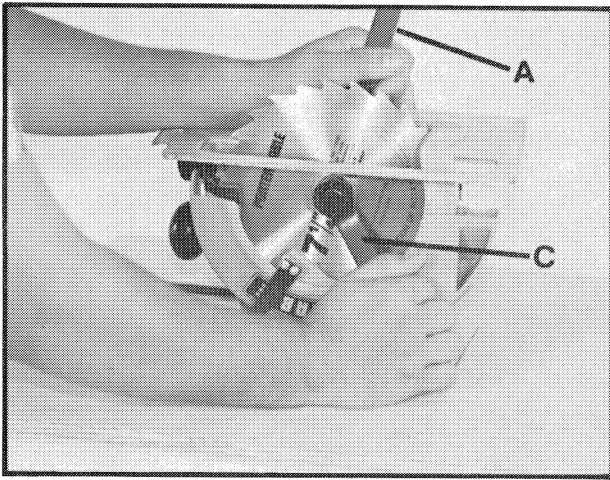

Fig. 4
3. Turn the saw over and make sure the handle rests on a rigid support. See Fig. 4.
4. Retract the blade guard. Insert the jackshaft wrench (A) Fig. 4, between the blade and guard and onto the flats on the jackshaft flange.
5. While holding the jackshaft wrench (A), the blade screw can be tightened or loosened with the blade screw wrench (C) as shown in Fig 4. Turn the blade screw counterclockwise to loosen and clockwise to tighten.